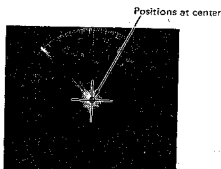

Fig. 5-17
- If the vector does not position at the center of vectorscope, press PG DN key twice to return to (14)-1, and repeat above procedure until vector positions at the center of vectorscope as shown in Fig. 5-17.